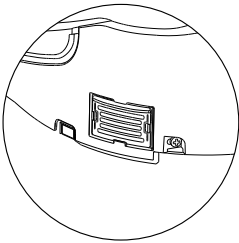

Fig 1
- Turn off water inlet valve (fig 1).
- Remove louver from the Bidet side (fig 1).
- when press release button, gently lift cover front tip (fig 1).